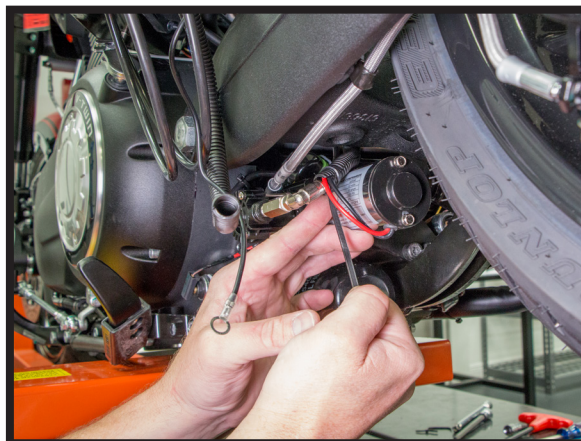

FIGURE 29
12. FEED THE SPLIT LOOM DOWN TO THE PUMP AND SECURE WITH INCLUDED ZIP TIES. (FIGURE 29)